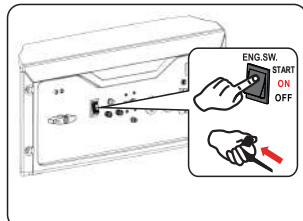

Fig 13 Recoil Start
- For manual start, turn the engine START/ON/OFF switch to the "ON" position. Pull the recoil starter grip slowly until resistance is felt, then pull rapidly. (See fig 13)